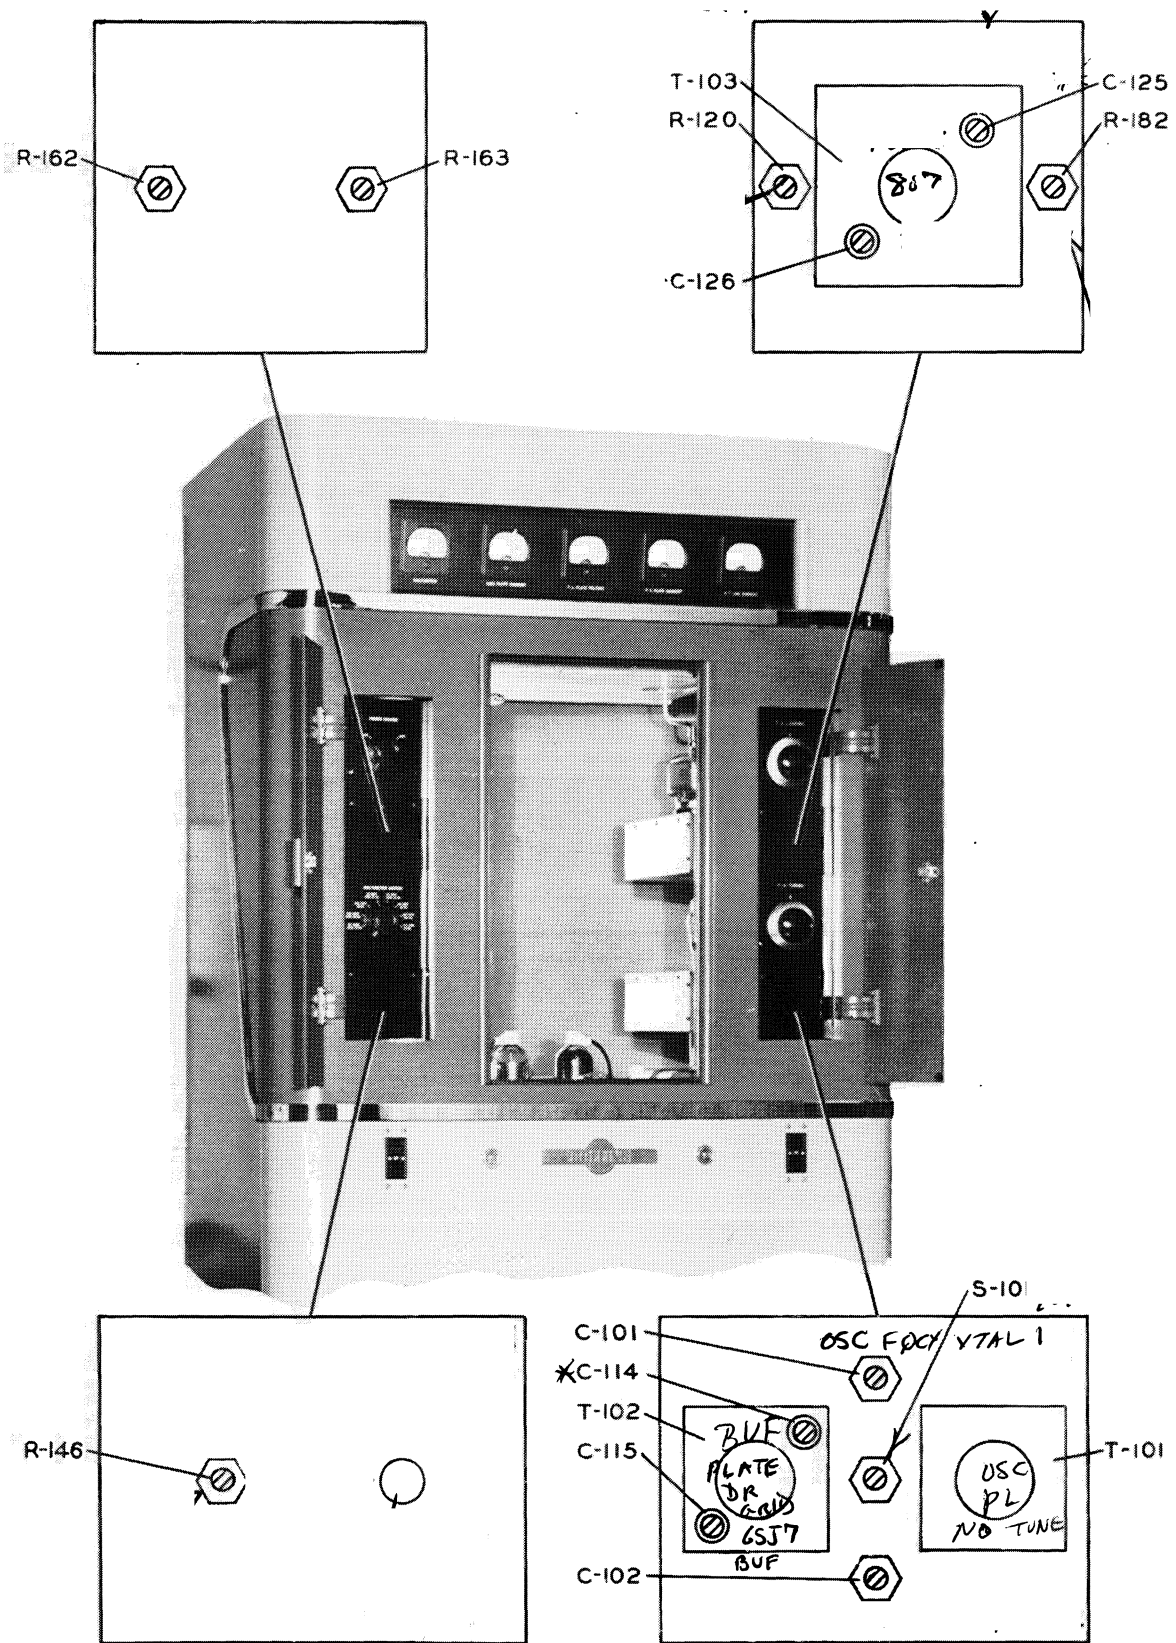

FIGURE 3-1 LOCATION OF CONTROLS BEHIND INSPECTION PLATES
(4) RF Output Network Compartment.
(5) RF Cans. - There are three rf tank cans associated with the oscillator, buffer and rf driver plate circuits. Refer to figure 3-1 for their correct positions and install them in their proper sockets.
3.1.1. LOCATION OF CONTROLS. (Refer to figures 3-1 and 7-14.) - The 20V controls are all accessible from the front of the transmitter. With the doors closed, only the FILAMENT ON-OFF switch (left) and the PLATE ON-OFF switch (right) and the FILAMENT ON and PLATE ON pilot lamps are visible.
(b) ADJUSTMENT CONTROLS. (Refer to figure 3-1.) -